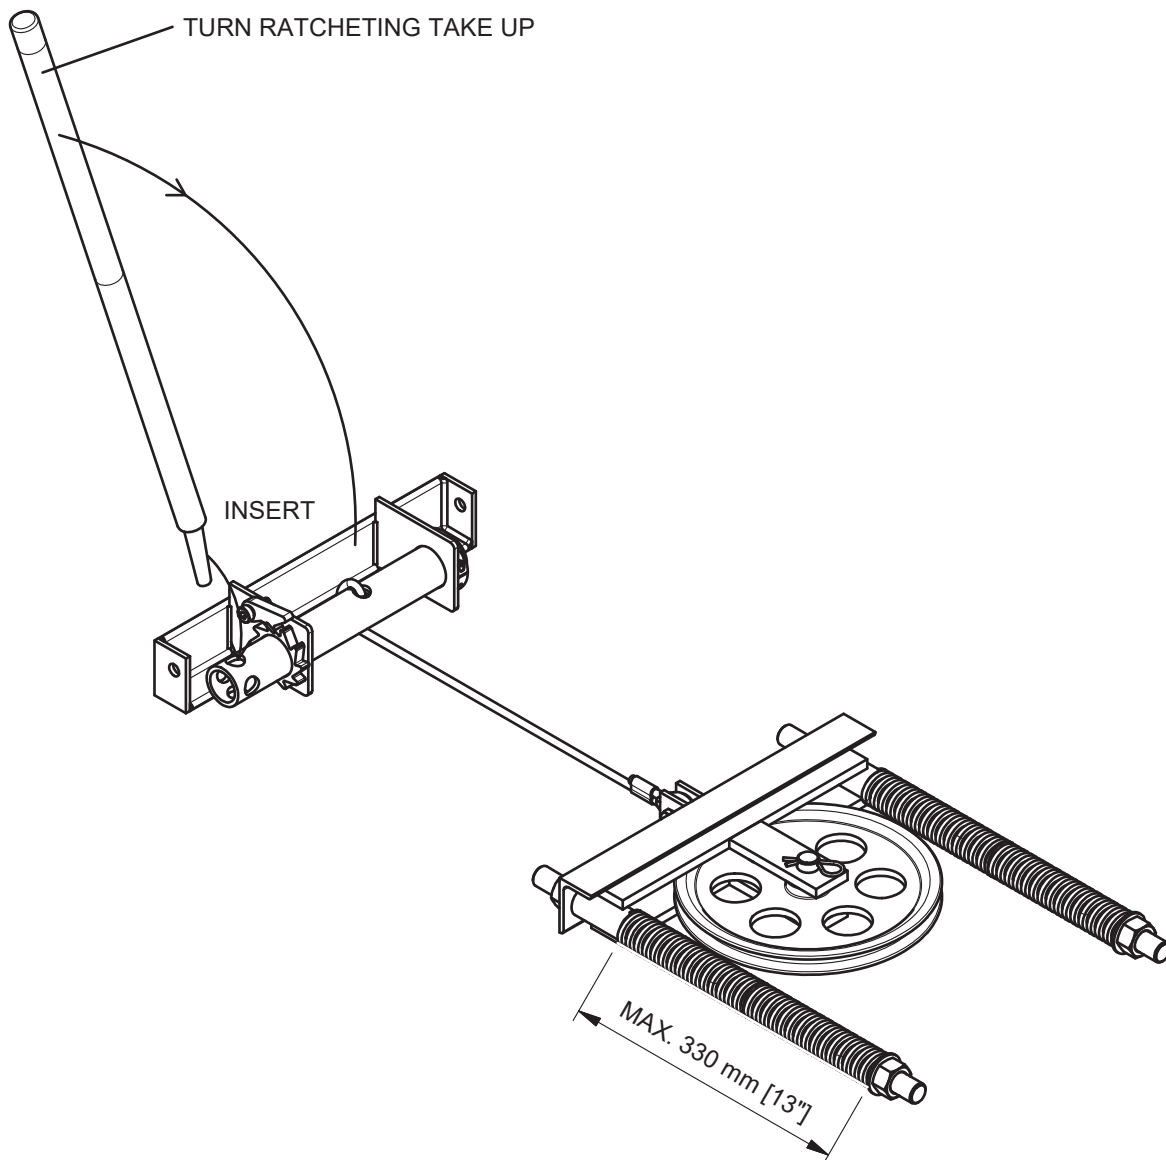

Figure 17
4. **Tension the drive cable** (Figure 17). Use a pry bar or similar lever to turn the ratcheting take-up on the return pulley. Remove the slack in the drive cable and tension it until the springs on the return pulley are compressed to 13" [330 mm] or less. (Figure 17)